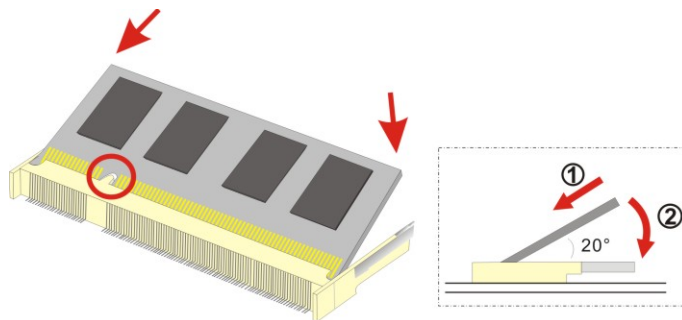

Figure 4-1: SO-DIMM Installation
To install a SO-DIMM into a SO-DIMM socket, please follow the steps below and refer to **Figure 4-1**.
- Step 3: Insert the SO-DIMM.** Push the SO-DIMM chip into the socket at an angle. (See **Figure 4-1**)
- Step 4: Open the SO-DIMM socket arms.** Gently pull the arms of the SO-DIMM socket out and push the rear of the SO-DIMM down. (See **Figure 4-1**)